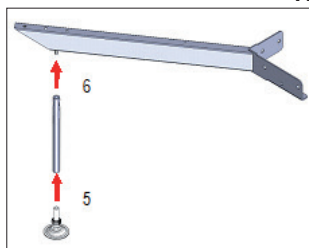
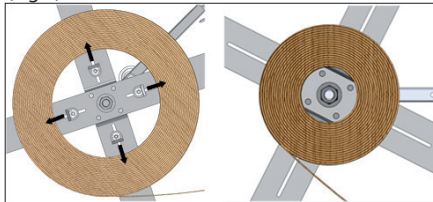

Fig. 2
**Fig. 5**
- Fasten the supporting stand to the supporting arm(Fig2). Do not leave the supporting leg unsettled. (Fig 3 - Fig 5)